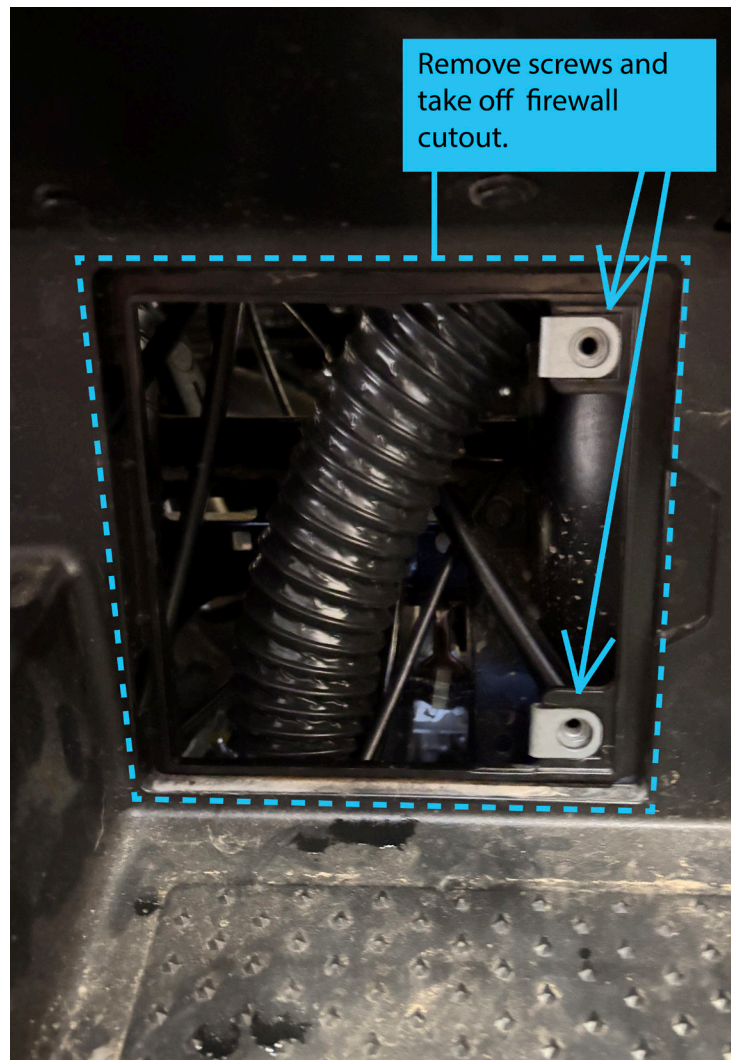

FIGURE 3
6. Remove the small firewall cutout. FIGURE 3